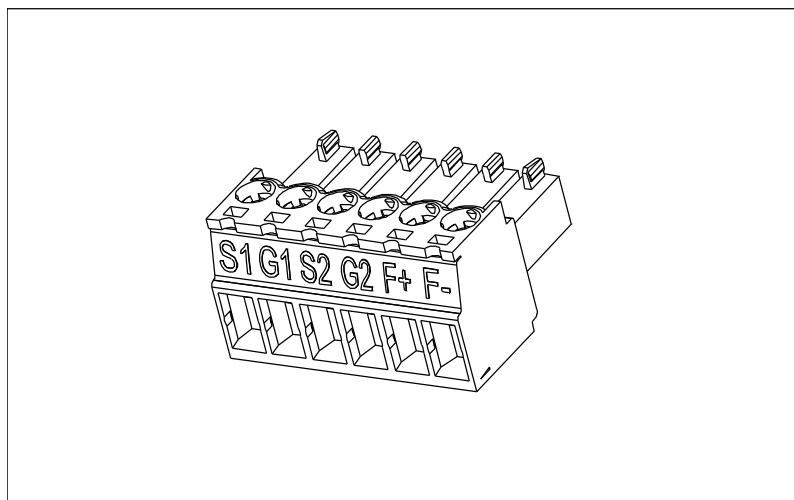

Figure 8. STO connector.
- STO terminal connector (six pins black connector, see Figure 8.)